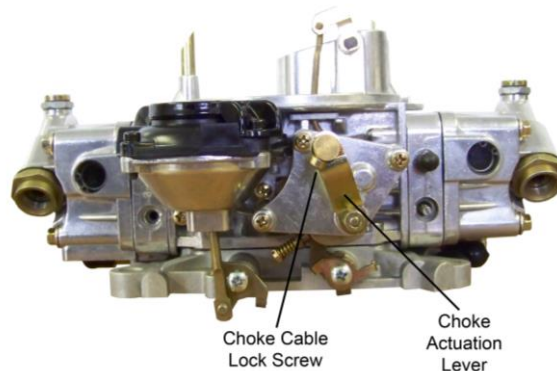

**Figure 10**
3. If the fast idle RPM is too low or too high for your preferences, TURN THE ENGINE OFF. Advance the throttle to wide-open, exposing the fast idle set screw below the choke housing (See **Figure 10**).